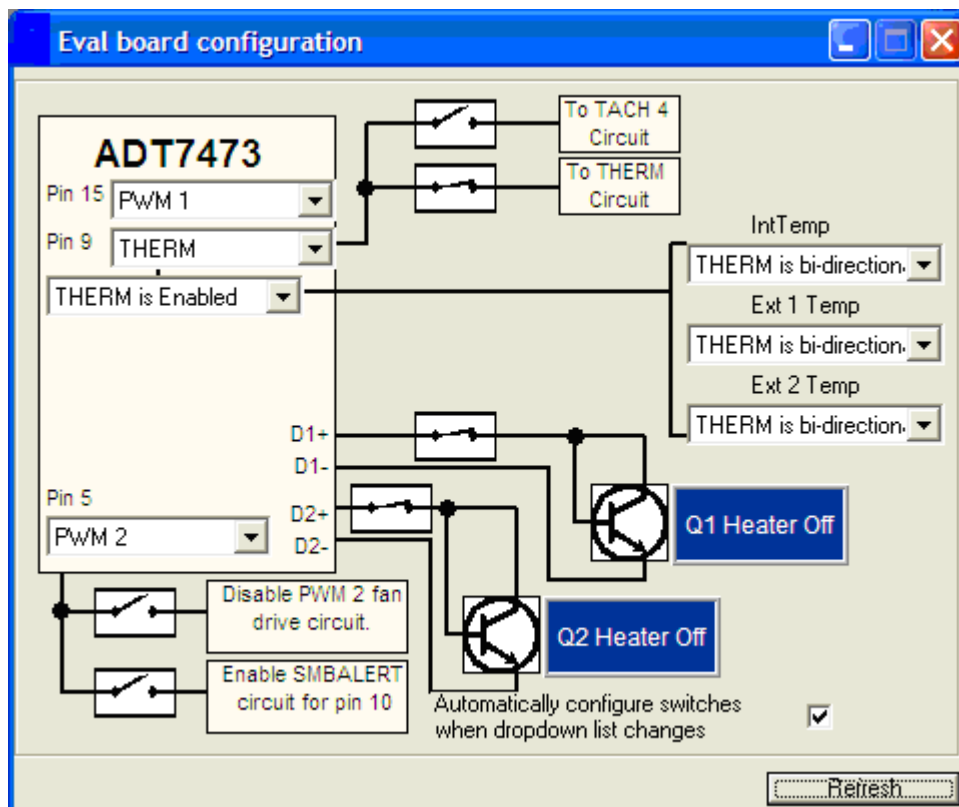

Figure 6. Eval Board Configuration Window
- The onboard heaters can be turned on and off in this same window by clicking the appropriate heater (Q1 or Q2). In figure 6 heater Q1 is turned on.